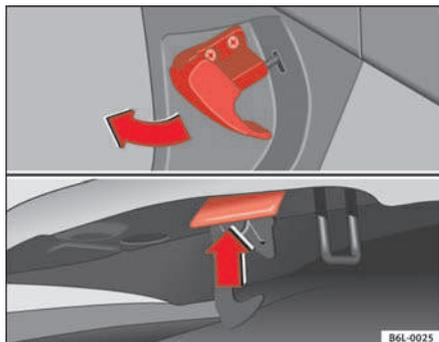

Fig. 121 Detail of foot-well area on driver's side: lever for unlocking the bonnet.
- To release the bonnet, pull the lever under the dashboard ⇒ **fig. 121** in the direction indicated (arrow). The bonnet will be released by a spring action ⇒ ⚠.